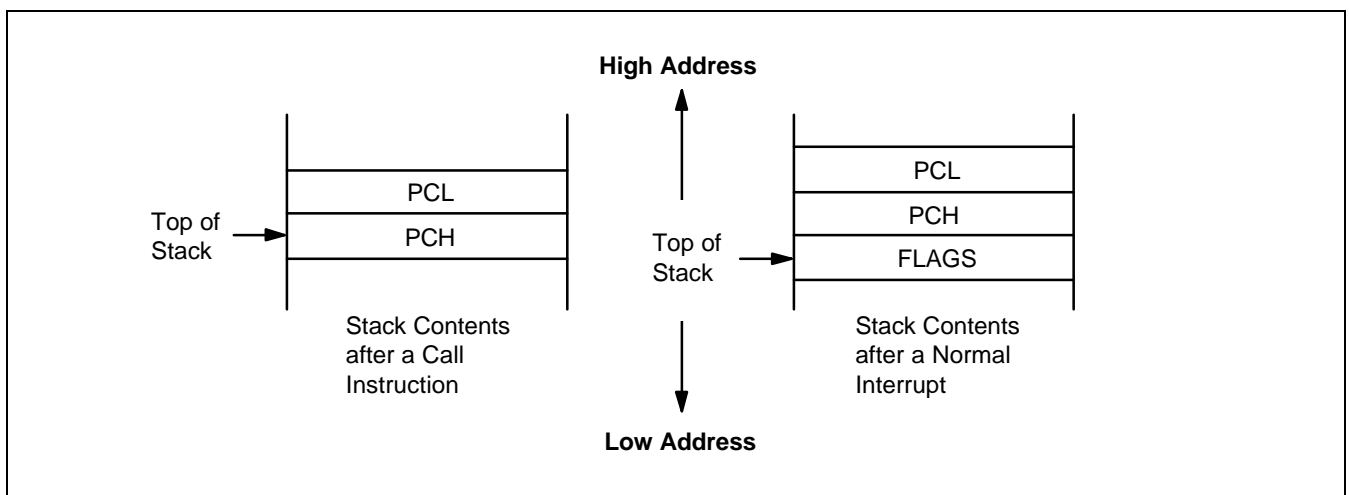

Figure 2-15. Stack Operations
Return addresses for procedure calls, interrupts, and data are stored on the stack. The contents of the PC are saved to stack by a CALL instruction and restored by the RET instruction. When an interrupt occurs, the contents of the PC and the FLAGS register are pushed to the stack. The IRET instruction then pops these values back to their original locations. The stack address is always decremented *before* a push operation and incremented *after* a pop operation. The stack pointer (SP) always points to the stack frame stored on the top of the stack, as shown in Figure 2-15.